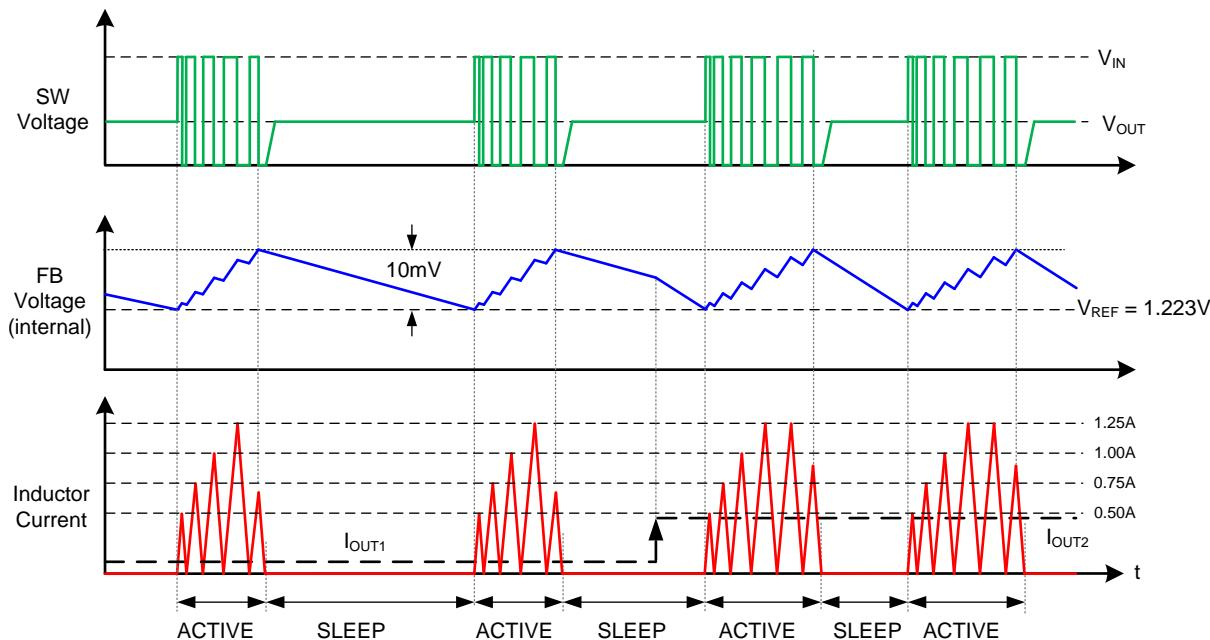

图 42. PFM Mode With Modulated  $I_{LIM}$ , Output Voltage and Inductor Current Representative Waveforms
One of the supported ILIM settings enables a function that modulates the peak current threshold levels during the first three switching cycles of each active period as illustrated in 图 42. This function improves efficiency under most application conditions at the expense of slightly degraded load transient response.
(1) For this current limit threshold selection, the ILIM pin may also be left open instead of using a 100-k $\Omega$  or greater resistor.
(2) This  $I_{LIM}$  setting enables a function that modulates the  $I_{LIM}$  levels during the first three switching cycles as illustrated in 图 42.